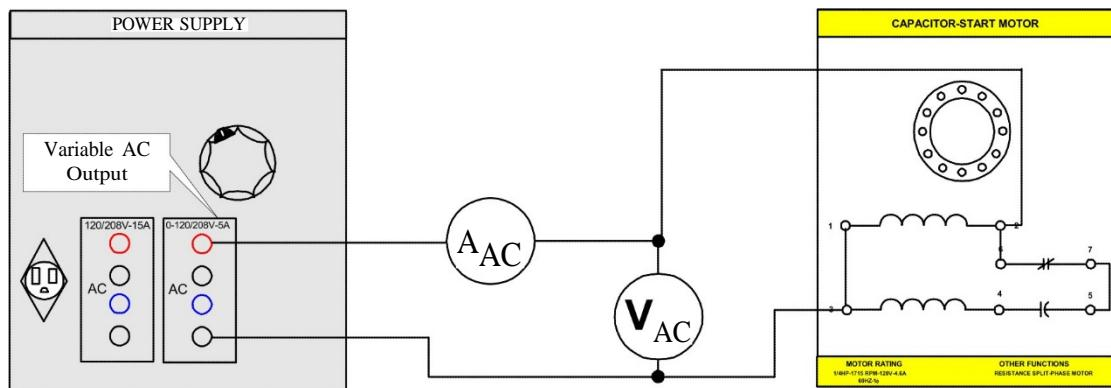

FIGURE 8.15
Step 5: Using your Data Acquisition Interface (DAI) modules in the EMS workstation, and Electrodynamometer, connect the circuit shown in Figure 8.15.